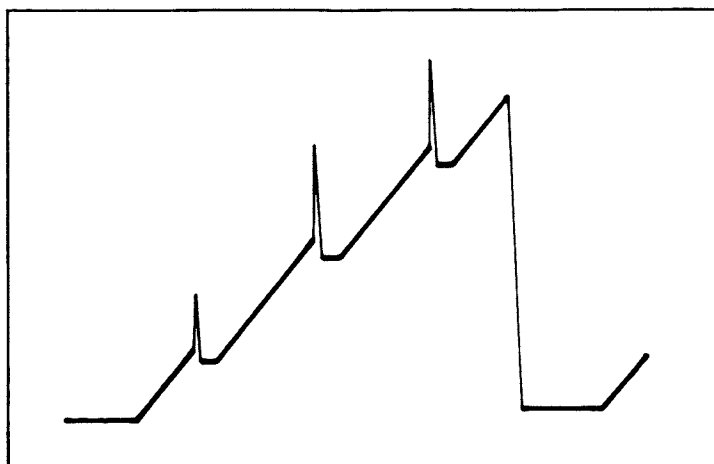

Figure 5-42. Improperly Adjusted DC Levels Between Sweep Ramps
7. Connect oscilloscope to A16TP4. Display should be a ramp similar to that shown in Figure 5-42.
8. Adjust A16R68 AUX adjustment to align the dc level of the rest time between each ramp with the upper dc level of each ramp. Refer to Figures 5-42 and 5-43 for typical display and illustration of proper adjustment.